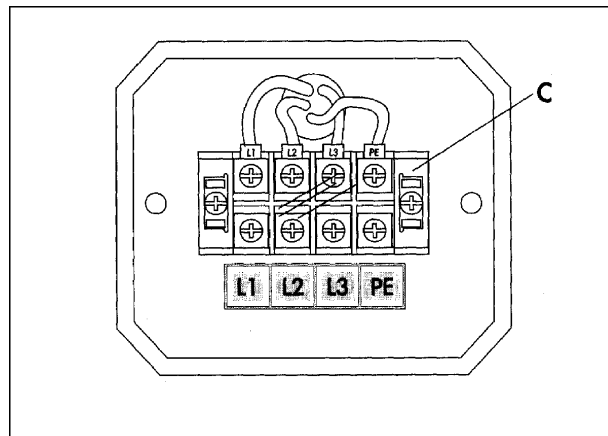

FIGURE 9
2. Remove clear plastic insulator (C) that covers the terminals. See Figure 9.